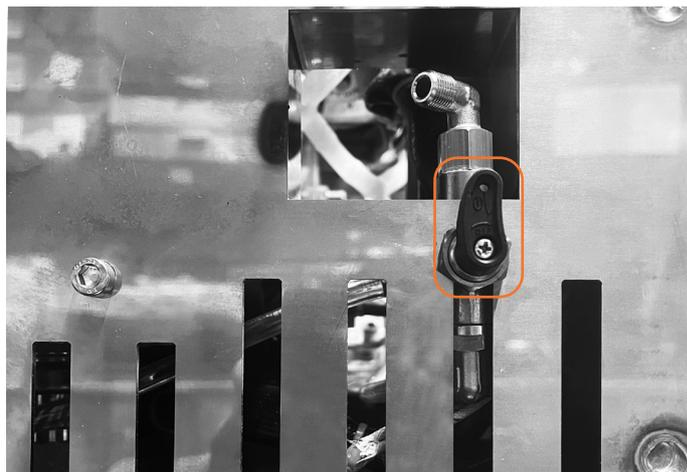

fig. 4
- **Drawing from the water mains:** turn the tap towards the supply unit (fig. 4).